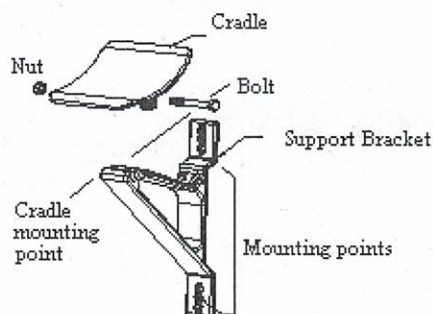

Figure 1
2. Loosely attach the cradle to the bracket using the supplied nut and bolt – see figure 1.